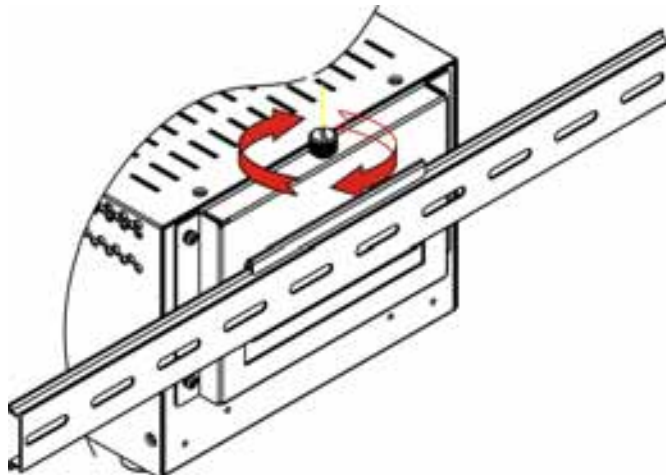

Figure 5-17: Secure the Assembly to the DIN Rail
- Step 4:** Secure the DIN rail to the mounting bracket by turning the top screw clockwise. This draws the lower clamp up and secures the monitor to the DIN rail (**Figure 5-17**).